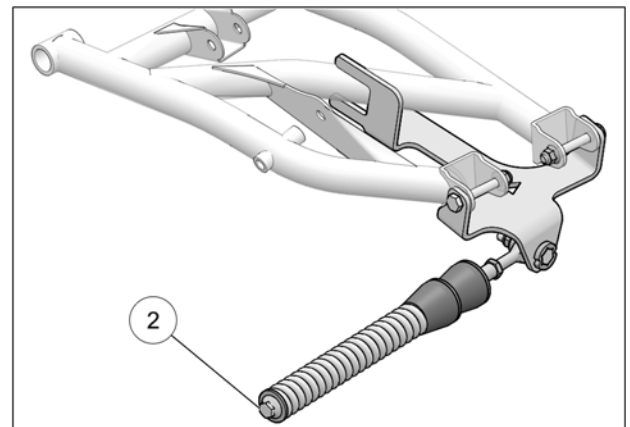

Fig. 11
- Verify that spring assembly bolt (2) is tightened to the recommended torque specification: $75 \text{ N}\cdot\text{m}$ [$55 \text{ lb}\cdot\text{ft}$]. Refer to Fig. 11